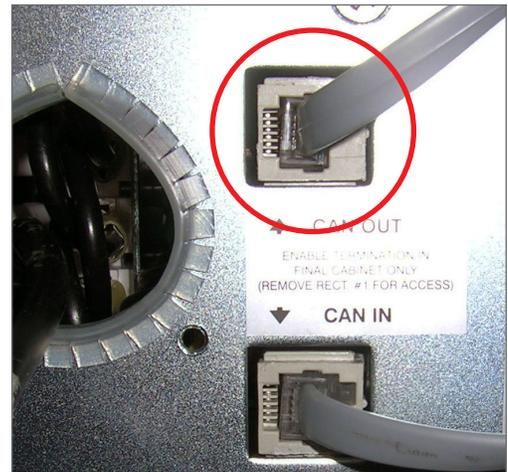

Figure 38 — CAN IN/CAN OUT Connection 4.0kW
2. Connect the inter-bay CAN bus cable, which ships with the expansion bay, to the CAN OUT connector of the top rectifier shelf of the expansion bay (Figure 38).